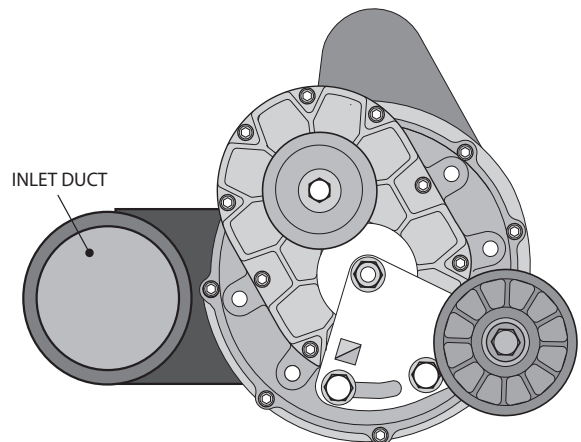

Fig. 13-a
- A. Slide the inlet duct along with the T-type clamp onto the supercharger inlet. (See Fig. 13-a.)
- D. Secure the supercharger with four (4) 3/8-16 x 1" bolts and AN washers.